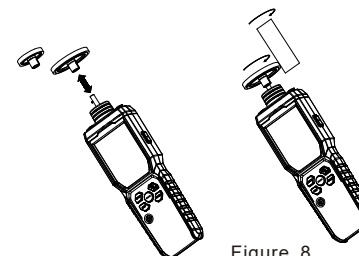

Figure. 8
4. Contact---Surface Velocity/Length Measurement (Figure 8)